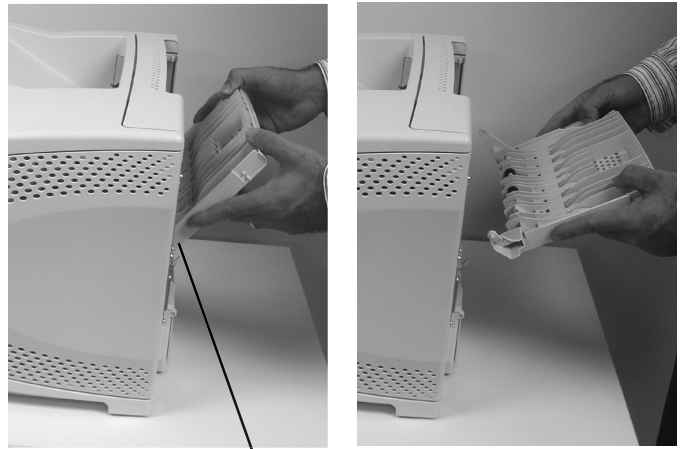

Fig. 6
1. Remove back door from the printer. Lower door, depress the side tabs to release and pull the door out (Fig. 6).